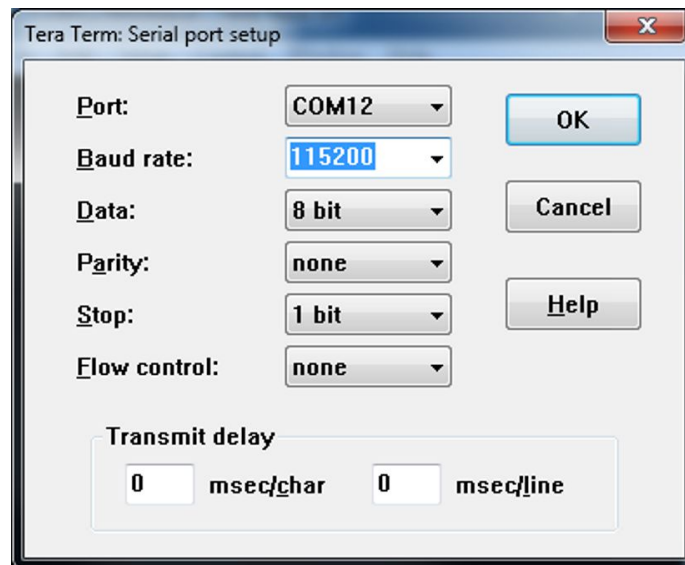

Figure 2. Tera Term Serial Port Setup
3. Open Tera Term on the PC, select the Serial option, and set the Serial Baud Rate to 115200 as shown in Figure 2 to obtain the IP address.